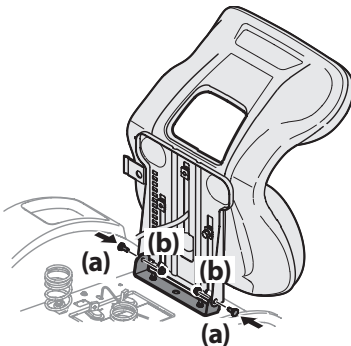

Figure 6
4. With the previously removed shoulder bolts (a) and flange lock nuts (b) secure one side of the seat and seat bracket. While supporting the seat, remove the Phillips screwdriver and secure the other side of the seat. Be careful not to crimp or damage the wire harness while installing the seat. See Figure 6. Torque to 84-103 in-lbs (10-12 N-m).